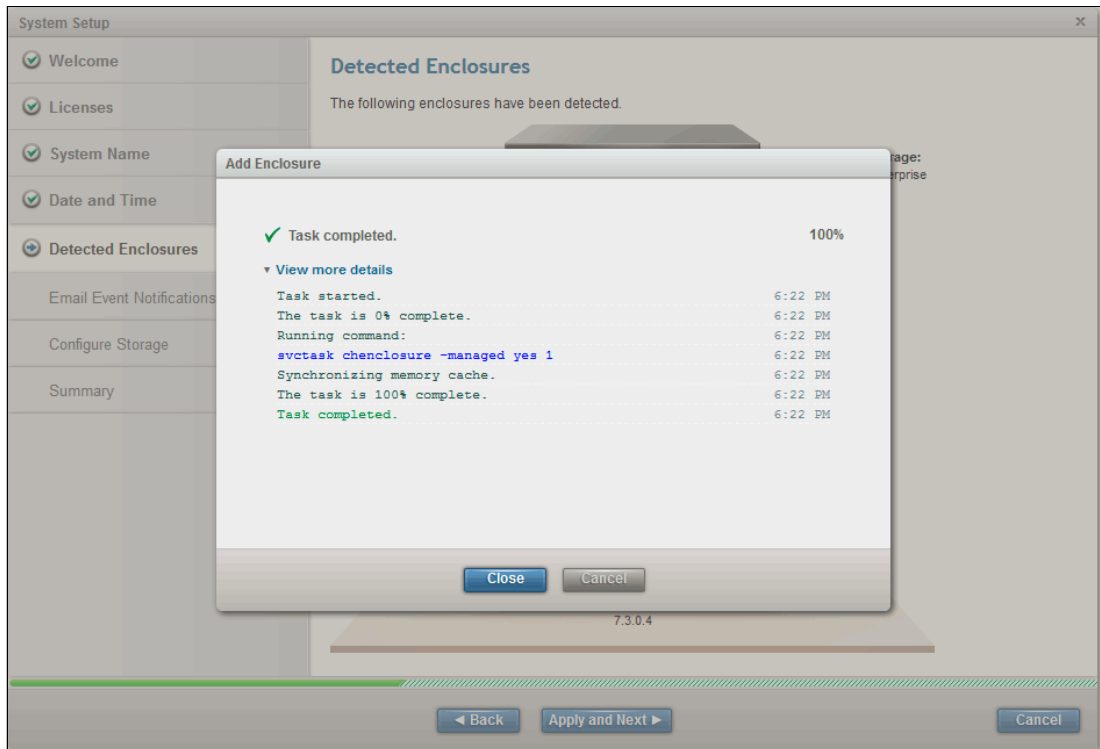

Figure 5-19 Add Enclosure
12. Click **Apply and Next**. The system configures the detected enclosures (Figure 5-19).